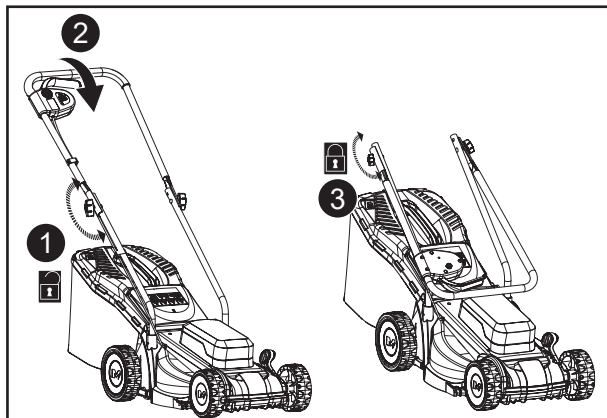

Fig. 17
1. Switch the product off and remove the battery pack (19) before storage.
3. Fold the handle assembly and store the product to save space (Fig. 17, steps 1, 2, 3).